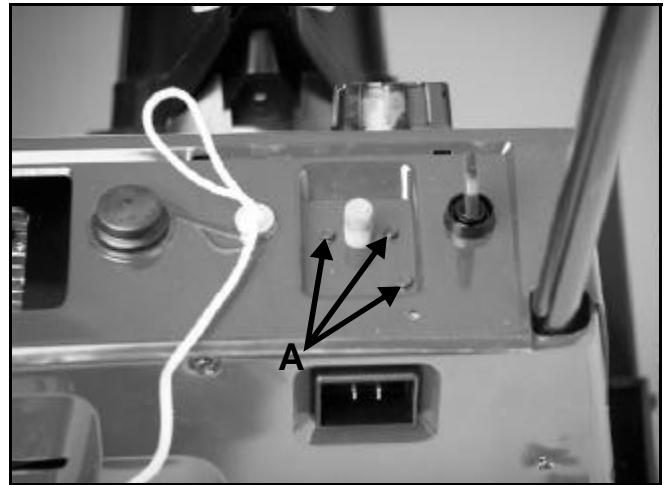

Figure 139
6. Remove the three bolts to the starter switch box (Figure 139).